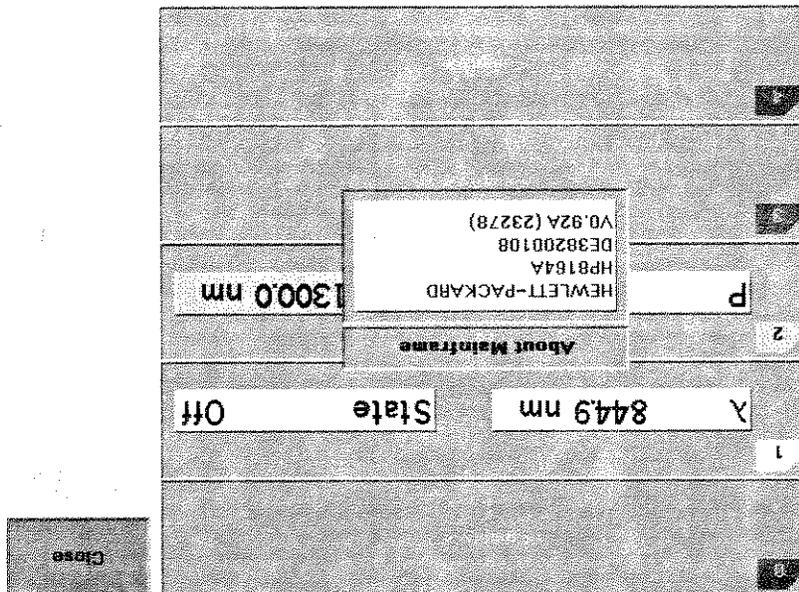

Figure 36 Viewing Information About the Mainframe
- 2 Move to the <About Mainframe> menu option and press *Enter*. You see a box displaying information about your mainframe, see Figure 36. The manufacturer, part number, serial number, and firmware revision of the mainframe are listed.